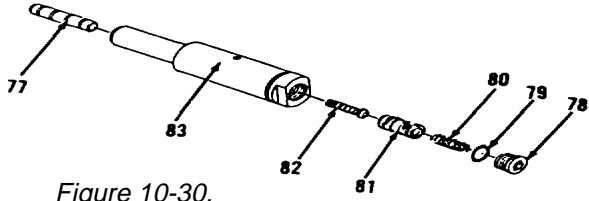
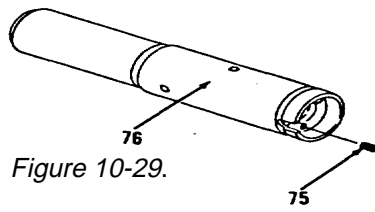

Figure 10-30.
Figure 10-29.
- 54. Install pistons (82 and 81) and spring (80) in cartridge (83, Figure 10-30).
- 55. Install new preformed packing (79) and plug (78).
- 56. Install piston (77).
- 57. Apply thread sealant to setscrew (75) and install in cartridge (76, Figure 10-29).